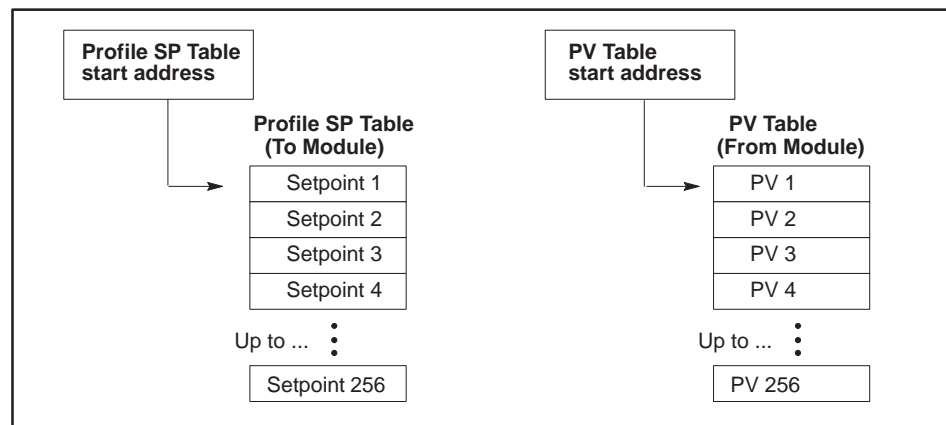

Figure 4-3 Profile SP and PV Tables
The module uses profile data stored in a table to control the mandrel position that determines the wall thickness of a parison. This table, called the Profile Setpoint (SP) Table (Figure 4-3), is downloaded from the controller to the module either when you put the module in RUN mode, or by your command.
Specify the starting address for the PV Table by entering an address into the PV Table Starting Address field in the Configuration Table. Tables for the various profiles do not have to be contiguous (Figure 4-3). During operation, the entire table of process variables is uploaded to the controller automatically at the completion of a profile. If zero is entered into the PV Table Starting Address field, no table is uploaded for the corresponding profile.